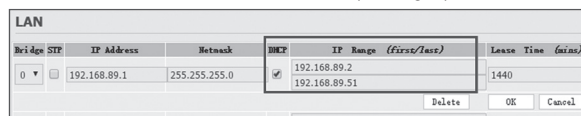

Fig. 2
5. Make sure DHCP function is enabled. (See Fig. 2)